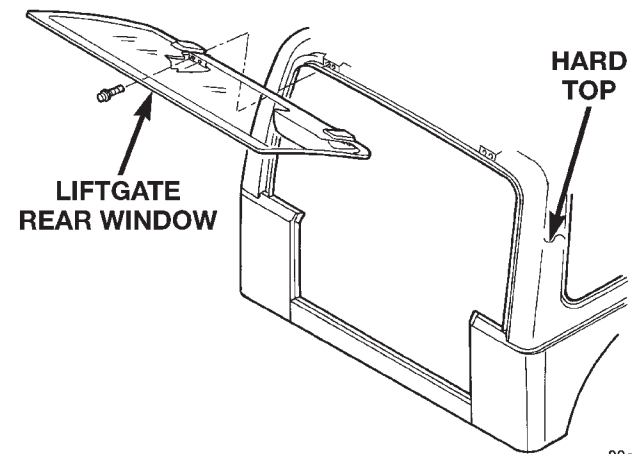

Fig. 76 Liftgate Glass
- (3) Open the tailgate and liftgate.
- (4) Remove support rod cylinders.
- (5) Remove the bolts attaching the liftgate hinge to the hardtop (Fig. 76).
- (6) Separate the liftgate glass from the hard top.